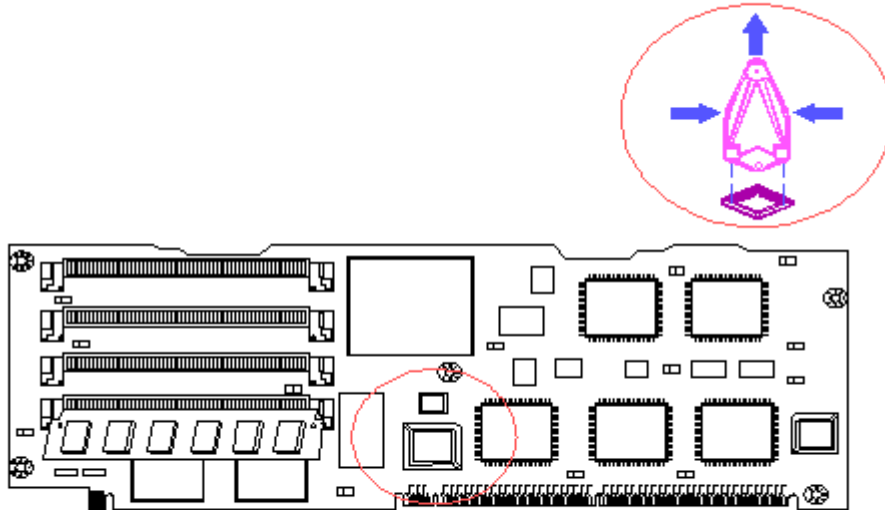

Figure 5-11. Removing the System ROM (Board Assy No. 002139)
5. Locate the system ROM on the processor board (Figure 5-11).
6. Using the ROM removal tool, grasp the ROM and gently pull up until it is released from the socket (Figure 5-11).